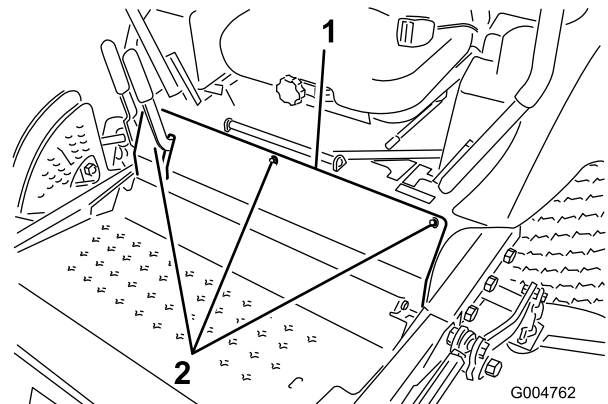

Figure 66
3. Remove the bolts securing the front panel and remove the panel (Figure 66).